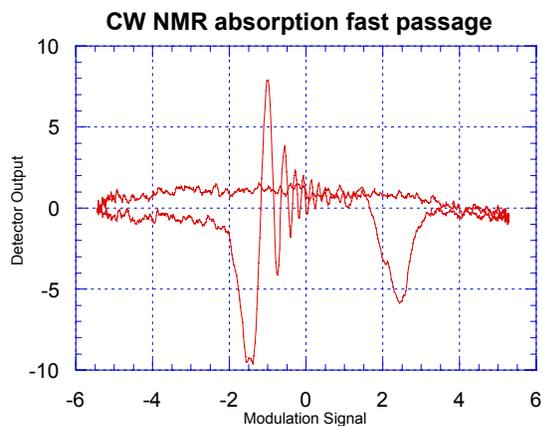
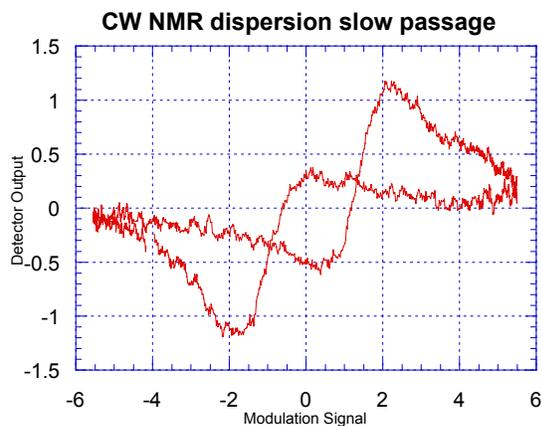

Figure 8: 0.1 Molar Mn^{++} in H_2O
Figure 10: 1 Molar Mn^{++} in H_2O
Slowly vary the frequency around the value you calculated above. You should be able to find resonance, and your signal should look like Fig. 8. Note that the resonance condition is very sensitive to frequency, so go slowly. Once you have found it, “peak-up” your signal by readjusting CR on the NMR BOX for maximum signal. If you don’t find a signal after you’ve fussed with everything, ask for help.
C. Replace the glycerin sample with a 0.01M Mn^{++} sample; again this signal should look like Figure 8. Download this non-adiabatic rapid passage absorption mode data to the computer. (See REPORT, #3.) Now insert a more highly doped sample, 1M Mn^{++} . The paramagnetic Mn^{++} ions relax the proton spins and the signal is more nearly a slow passage absorption mode. By further rotating the paddles you should be able to get a signal like Fig. 10, approximately a slow passage dispersion mode. You may have to increase V_1 to see this.